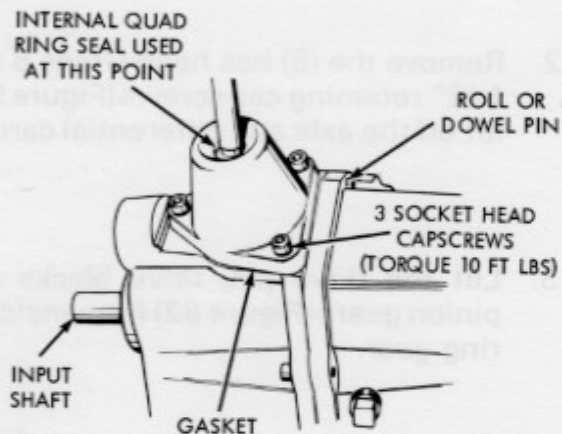

Figure 80 - Shift Lever Housing Installed
15. Install shifter lever housing assembly. (Figure 80) Use a new gasket. Torque three (3) socket head cap screws to 10 ft. lbs.
16. Place three (3) pints of S.A.E. - E.P. 90 in the transmission.